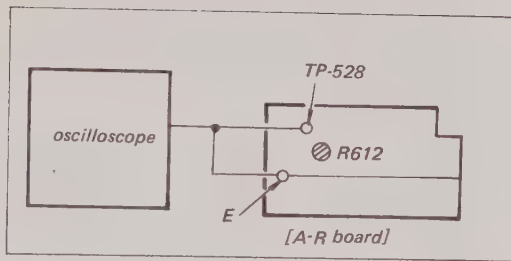

Fig. 8-18. Color APC adjustment test setup (3)
12. Connect the scope to TP-528. See Fig. 8-18.